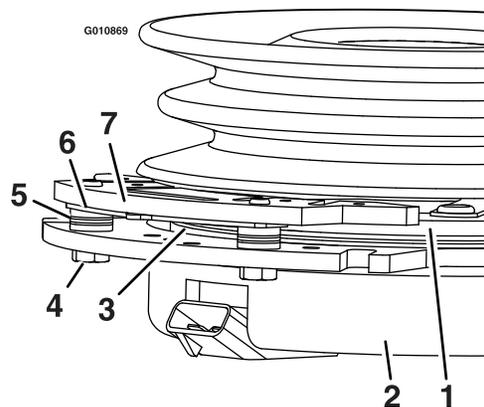

**Figure 75**
3. Remove the dust cap from caster and tighten the locknut (Figure 75).
4. Tighten the locknut until the spring washers are flat, and then back off a 1/4 turn to properly set the preload on the bearings (Figure 75).
**Important:** Make sure that the spring washers are installed correctly as shown in Figure 75.
5. Install the dust cap (Figure 75).